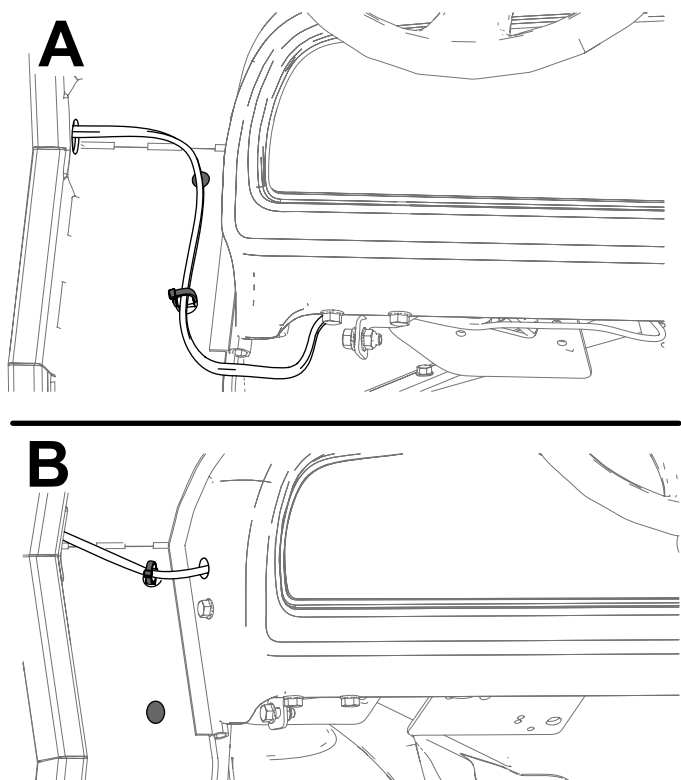

Figure 12
- Route the wire harness under the control panel (Box A of Figure 12). Install the clip tie in the lower hole on the side panel and the plug in the top hole.
- Drill a hole into the console, install the clip tie in the top hole on the side panel, and install the plug into the lower hole (Box B of Figure 12).